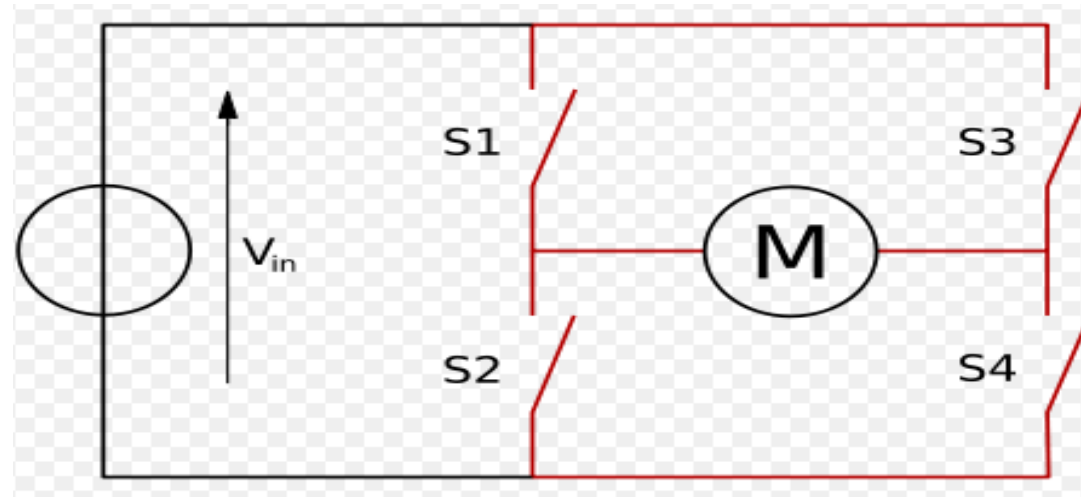

Fig. 7.2 Structure of an H bridge (highlighted in red)
- A common use of the H bridge is an inverter. The arrangement shown in Fig. 7.2 is sometimes known as a single-phase bridge inverter.